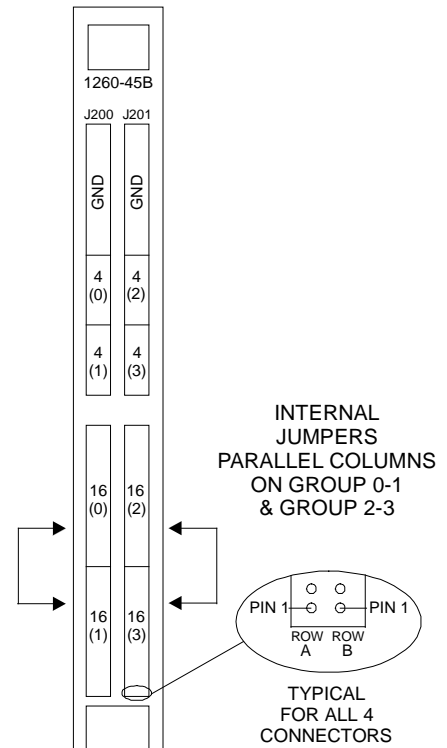

Figure A-6, 1260-45C Dual 8X16 Matrices
- * 1260-45C Dual 8x16 matrices (columns jumpered), J7 J8 (See **Figure A-6**)